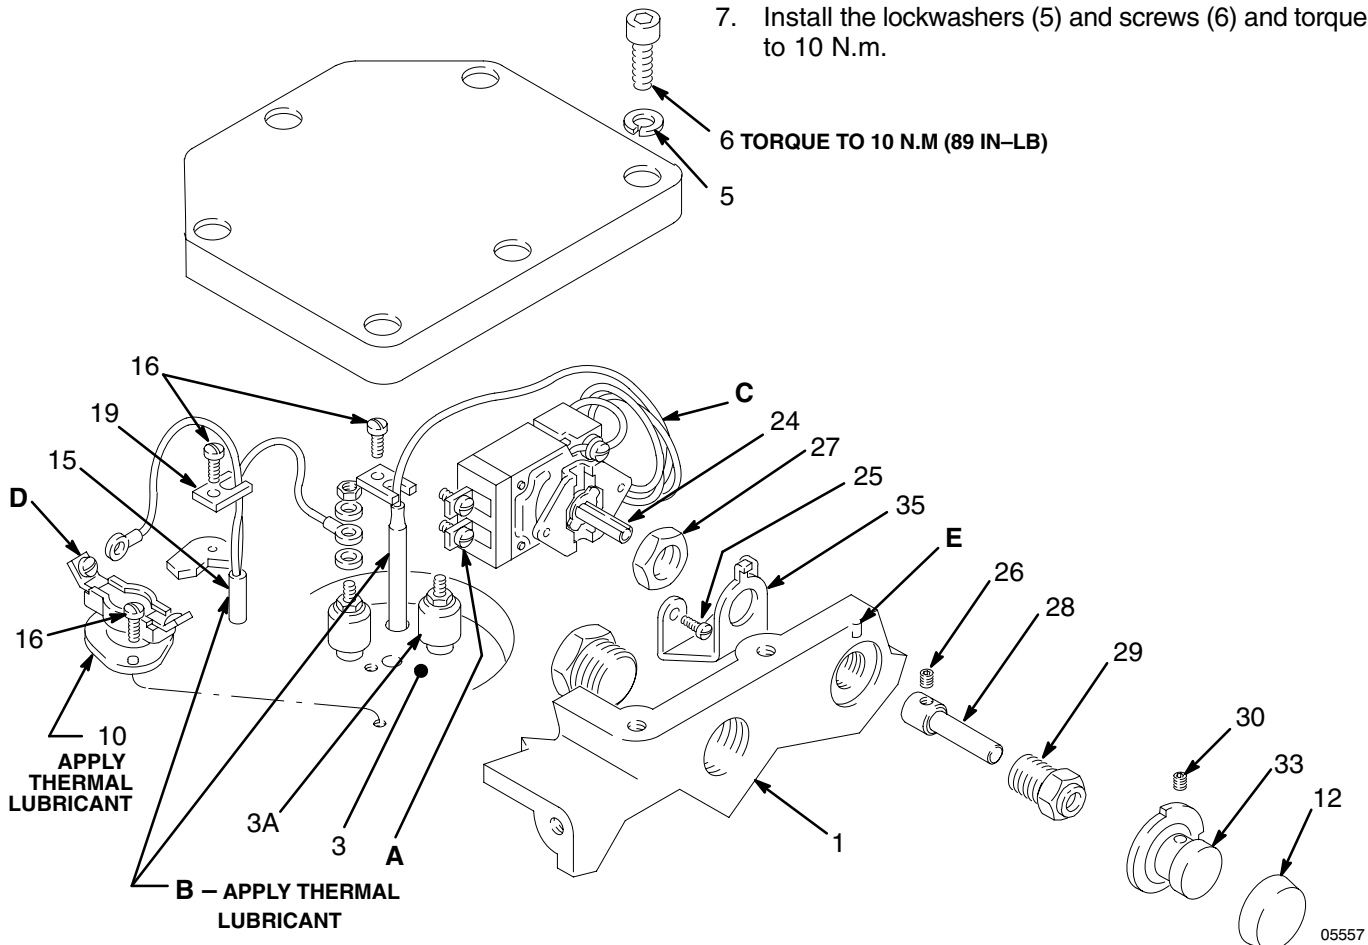

Fig. 13
## Thermostat Switch and Probe (See Fig. 13)
8. Liberally apply thermal lubricant (see **ACCESSORIES**) to the probe (B) of the new thermostat. Loop the capillary tube (C) several times and wrap the loops with the tie strap (47) as shown in Fig. 13. Insert the probe in the heater block.
## Backup Thermostat (See Fig. 13)
### Heater Limiter (See Fig. 13 and 14)
### Control Knob (See Fig. 13)